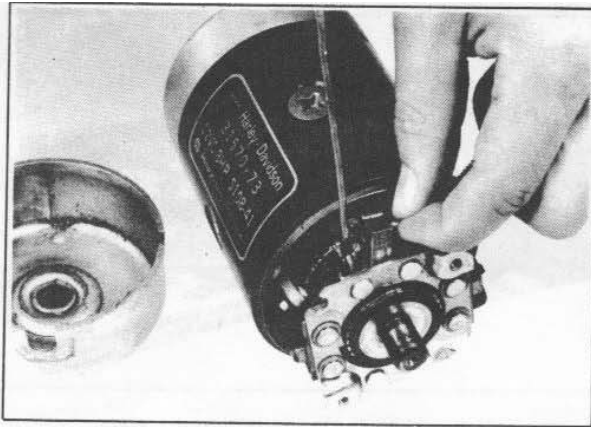
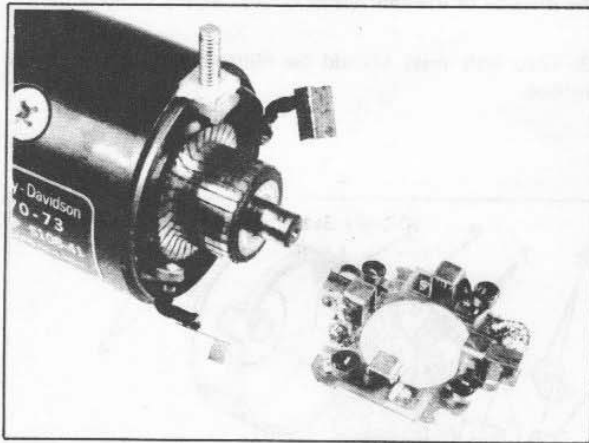

Figure 5-47. Removing Brushes - Hitachi Motor
Figure 5-48. Hitachi Brushes and Brush Holder
Lift the brushes from the commutator. As shown in Figure 5-47, pulling up the brush spring with a steel wire and pull out the brushes. Note that two negative brushes (7) have to be withdrawn slightly to be held in the brush guide, making use of the action of the brush spring. The other two positive brushes (8) should be completely removed from the brush holder assembly (9) as shown in Figure 5-48.